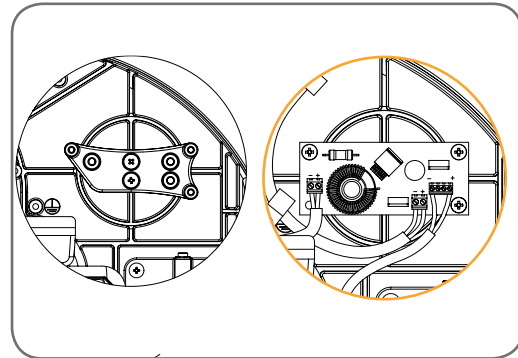

Fig 19.1
- Fix the Charger Board Holder to where the transformer was removed from. Fix the charger onto the charger holder (**Fig. 19.1**)